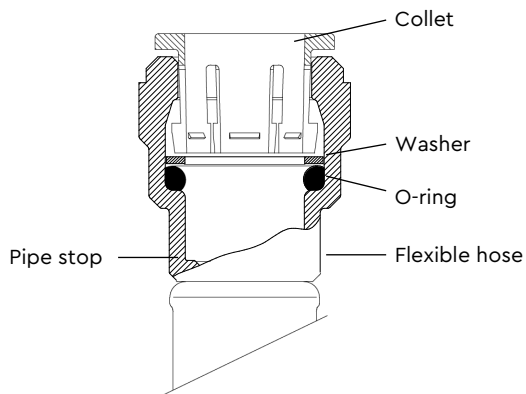

Figure 10
2. Check in the mouth of the fitting that the 'O'-ring, nylon washer and collet are in position as shown in Figure 10.